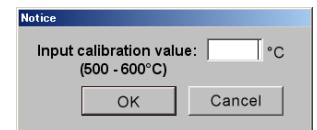

Fig. 6.4
- 6.4 After the software has been installed, a dialog box shown in Fig. 6.4 will be displayed only at the first startup.